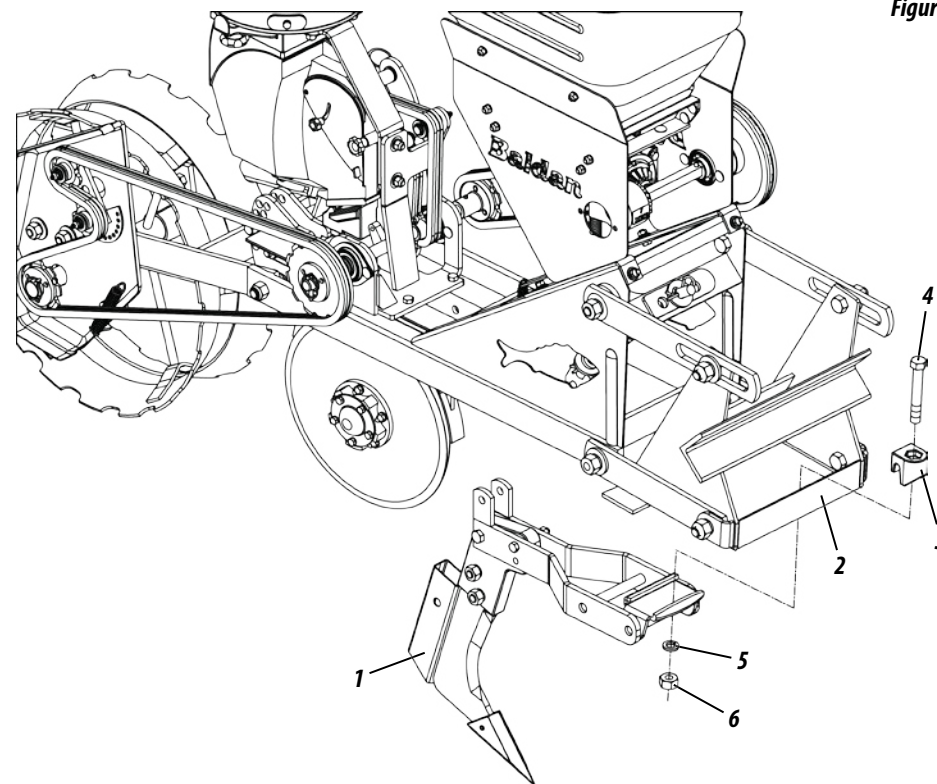

Figure 12
- The PLB Directa Air was developed for conventional tillage, but it also works in no-tillage system. To assemble the cutting disc (1) for no-tillage, proceed as follows:
01 - Attach the cutting disc (1) in the header (2), fixing it through the clamp Figure 12 (3), screws (4), washers (5) and nuts (6).
ASSEMBLING THE FURROWER - OPTIONAL (FIGURE 12)**PLB Directa Air 2/3/4/5/6 LINES**